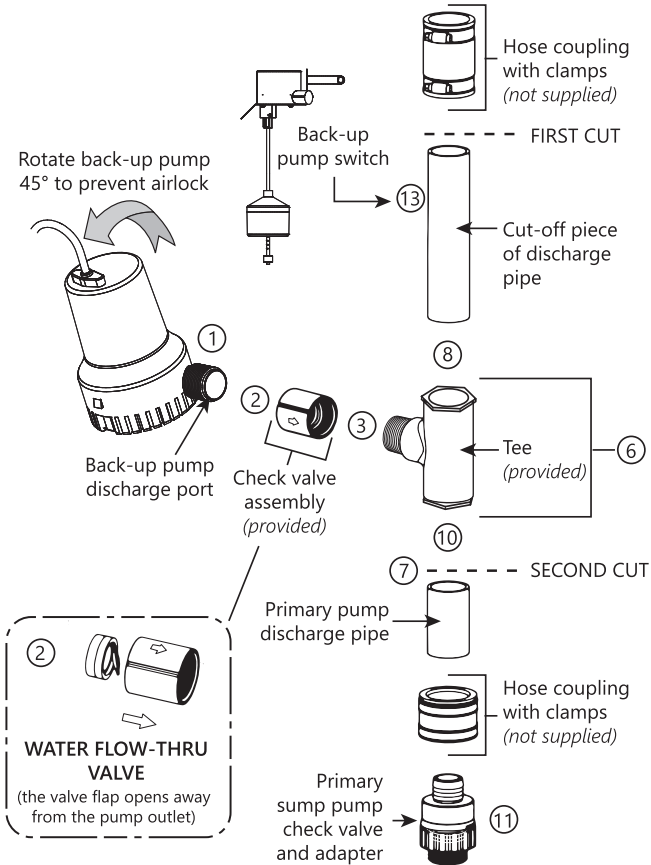

Figure 6. Installation Method C
1. Apply (2) wraps of thread seal tape to all threads.
2. Thread the check valve onto the back-up pump discharge ensuring that the valve housing and inner valve flap are oriented correctly. Refer to inset in Figure 6.